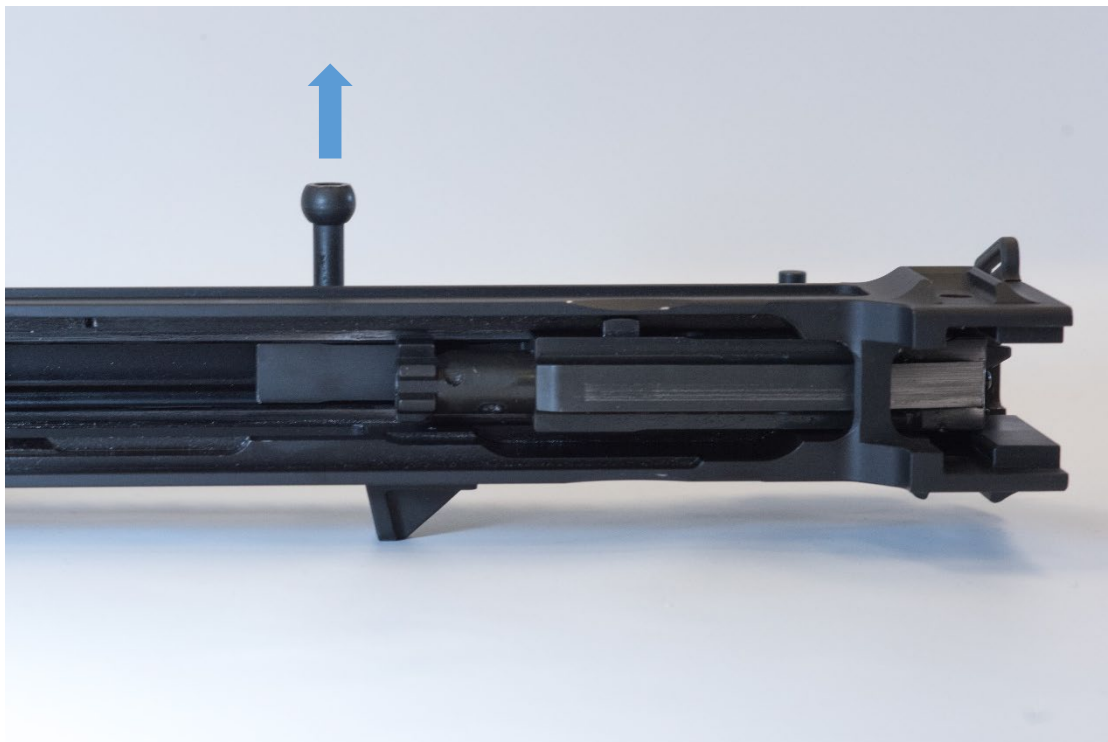

Figure 8: Charging Handle removal
- Move the Bolt Carrier Group (BCG) to the rear most position where it is possible to remove the charging handle. Remove the charging handle and the BCG from the firearm (Figure 8).